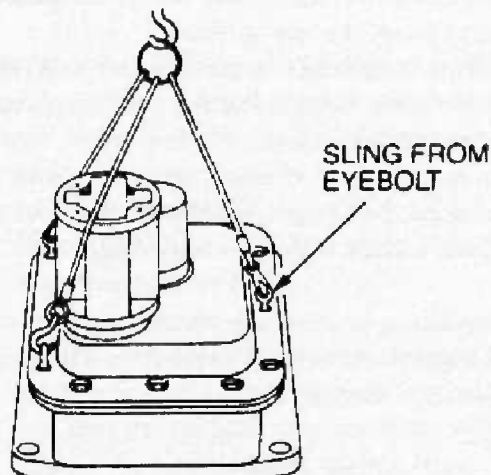

Figure 4 — Lifting a HGD (vertical shaft) reducer
**MOVING HGD REDUCERS** — Refer to Fig. 4. Replace three reducer housing flange fasteners with shouldered eyebolts as shown. Use a three-leg sling to lift and position the reducer.